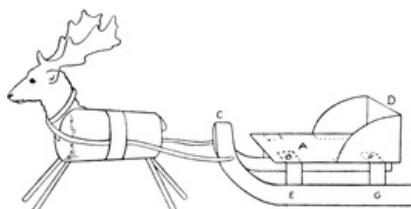
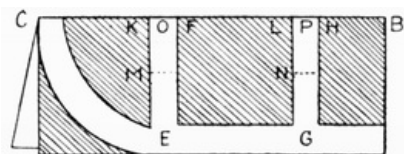

FIG. 132
FIG. 133
**A Reindeer Sledge** (Fig. 132). Make the reindeer as the other animals. For the sledge the bottom of a match-box, A, and a piece of brown paper are needed. The brown paper should be in length one and a half times the length of the match-box and broad enough to wrap round a match-box and cover every side except one narrow side. Fold the paper in two along C B. Draw the runners on the doubled paper and cut out as in Fig. 133. Cut the straps E O and G P along the top K F and L H; double them along M and N. Gum M K F and N L H to the bottom of the match-box, A. Do the same on the other side; pieces M K F, etc., may be cut shorter for convenience in gumming. A piece of brown paper forms the back, D (Fig. 132). Finally, a piece of paper just the size of the match-box can be pasted over A to make the sledge look tidy.